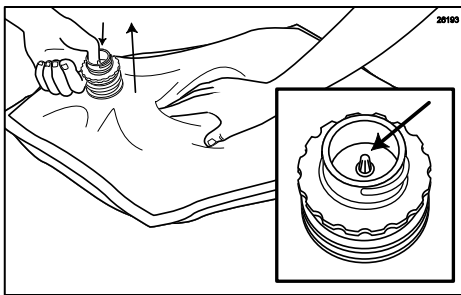

Figure 159
4. Lifting up with the bag fitment, press the center pin of the bag fitment valve and gently press on the bag to release any excess air. (See Figure 159.)